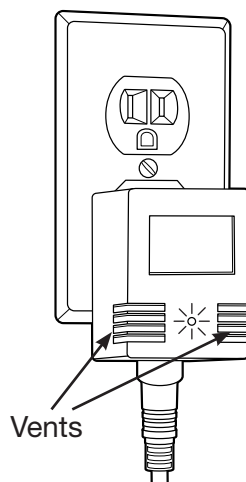

Fig. 4
- ### 9. Plug ballast into a standard 120V 50/60Hz outlet. Turn lamp on. The green LED indicator on center of the ballast should be illuminated (Fig. 4). If the LED indicator does not illuminate, please refer to the troubleshooting section of this manual (see page 9).